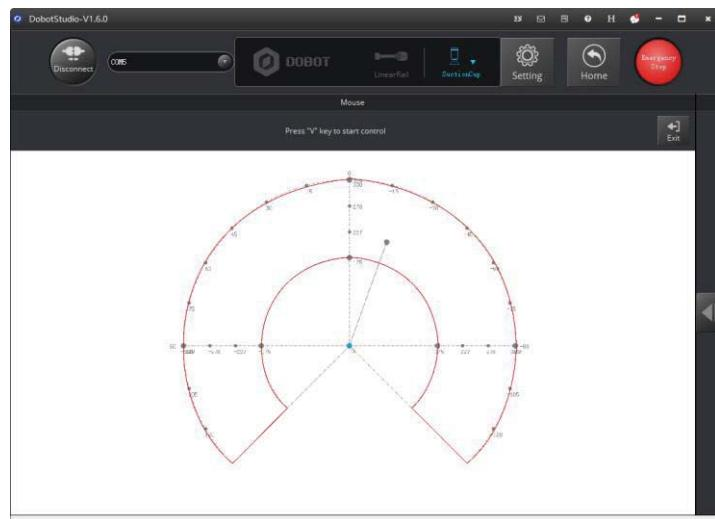

Figure 5.115 Move the robotic arm in the red annular area
**Step 2** Press V to enable the mouse control of the Dobot Magician. Press and hold the left mouse button to drag the mouse within the red annular area to move the robotic arm, as shown in Figure 5.115.